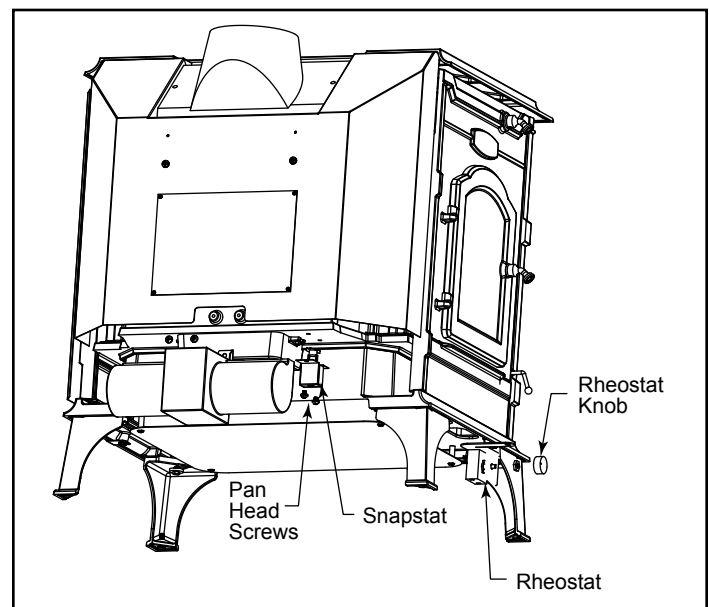

Figure 75 - Dutchwest fan installation.
1. Secure the fan assembly to the inner back with two (2) 1/4-20 x 3/4" hex head screws and one (1) 1/4" star washer as shown in Figure 75.
2. Attach snapstat to the mounting holes on the underside of the bottom with two (2) 1/4-20 pan head screws.
1. Remove the sheet metal outer back shown in Figure 75.
2. Attach the fan assembly at the bottom edge of the inner back with two (2) 1/4-20 x 3/4" hex head screws and one (1) 1/4" star washer.
3. Attach snapstat to the mounting holes on the underside of the bottom with two (2) 1/4-20 pan head screws.
4. Attach the rheostat holder, (provided with stove), under the right wing of the bottom heat shield with two (2) #10 sheet metal screws.